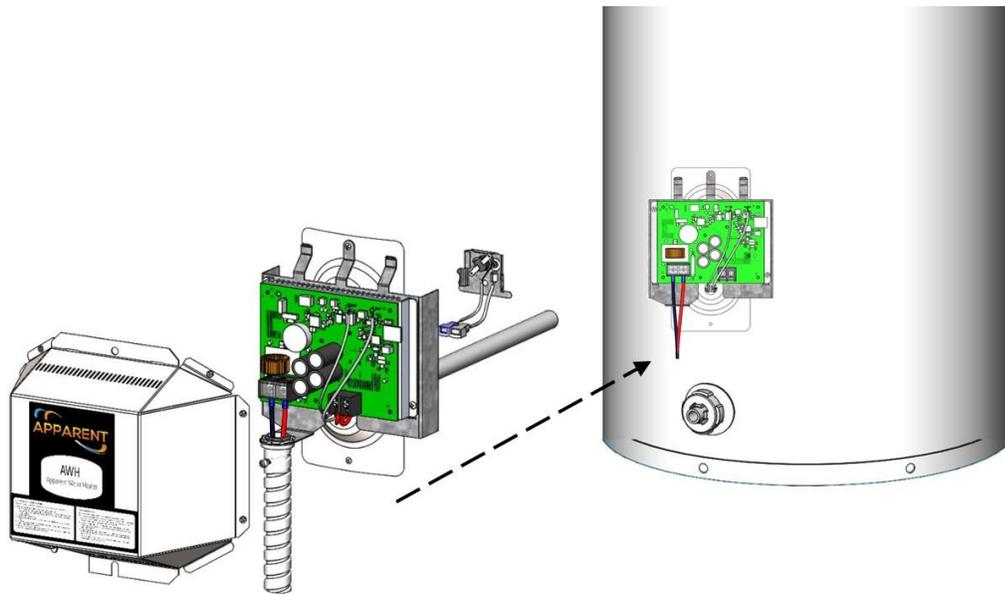

Figure 6. Attached control device using mounting bracket to tank.
- Secure the Controller mount to the tank and secure the control device to the mount using screws provided. (Figure 6)